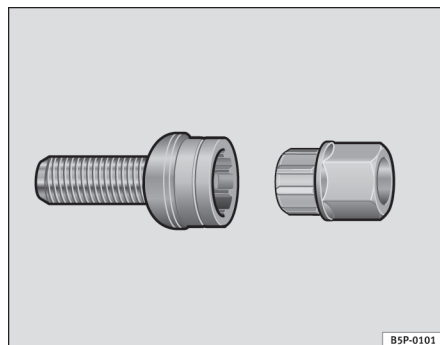

Fig. 176 Anti-theft wheel bolt
- Insert the adapter onto the wheel bolt and push it on as far as it will go ⇒ fig. 176.